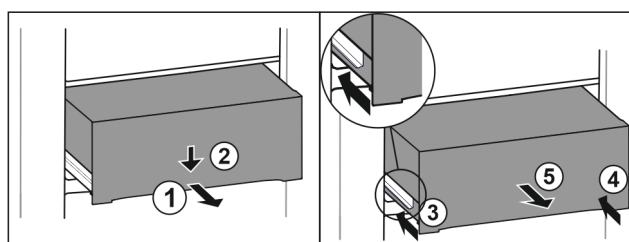

Fig. 179
- Pull out drawer half-way. Fig. 179 (1)
- Push the drawer down at the front. Fig. 179 (2)
- Push the left rail in by about 2 cm. Fig. 179 (3)
- Push the right rail in by about 2 cm. Fig. 179 (4)
- Remove drawer to the front. Fig. 179 (5)